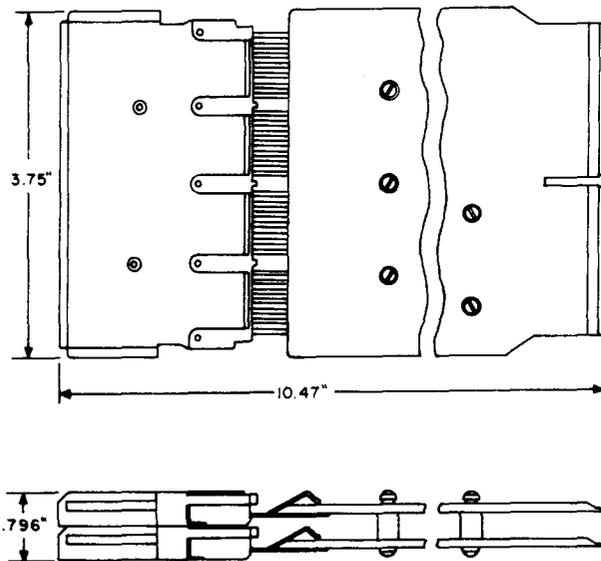

Fig. 8—801A Extender Tool
2.16 801A: The 801A extender tool (Fig. 8) is used to extend the A699 circuit packs on the service observing unit, J3B007AC-50 for testing.